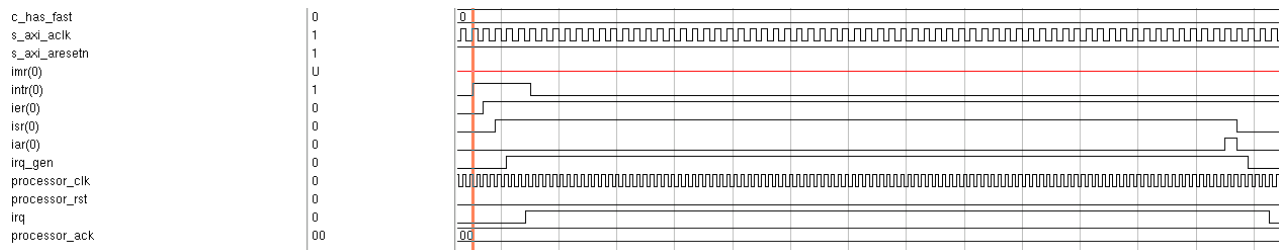

Figure 3-5: Input Intr - Level Sensitive (High), Output Irq - Level Sensitive (High), C_HAS_FAST = 0
- Configured Input Interrupt (Intr) for Level sensitive (active-High), Output Interrupt Request (Irq) to Level sensitive (active-High), disabled fast interrupt logic (C_HAS_FAST = 0). Timing diagram is shown in Figure 3-5.